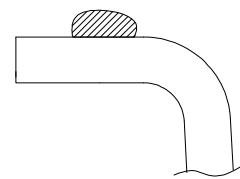

Fig 3.
- Clean the outside rim of the sink and the worktop underside to remove any dirt or grease, allow to dry. Apply a continuous generous bead of good quality silicone onto the rim around the upper perimeter of the sink as shown in fig 3.